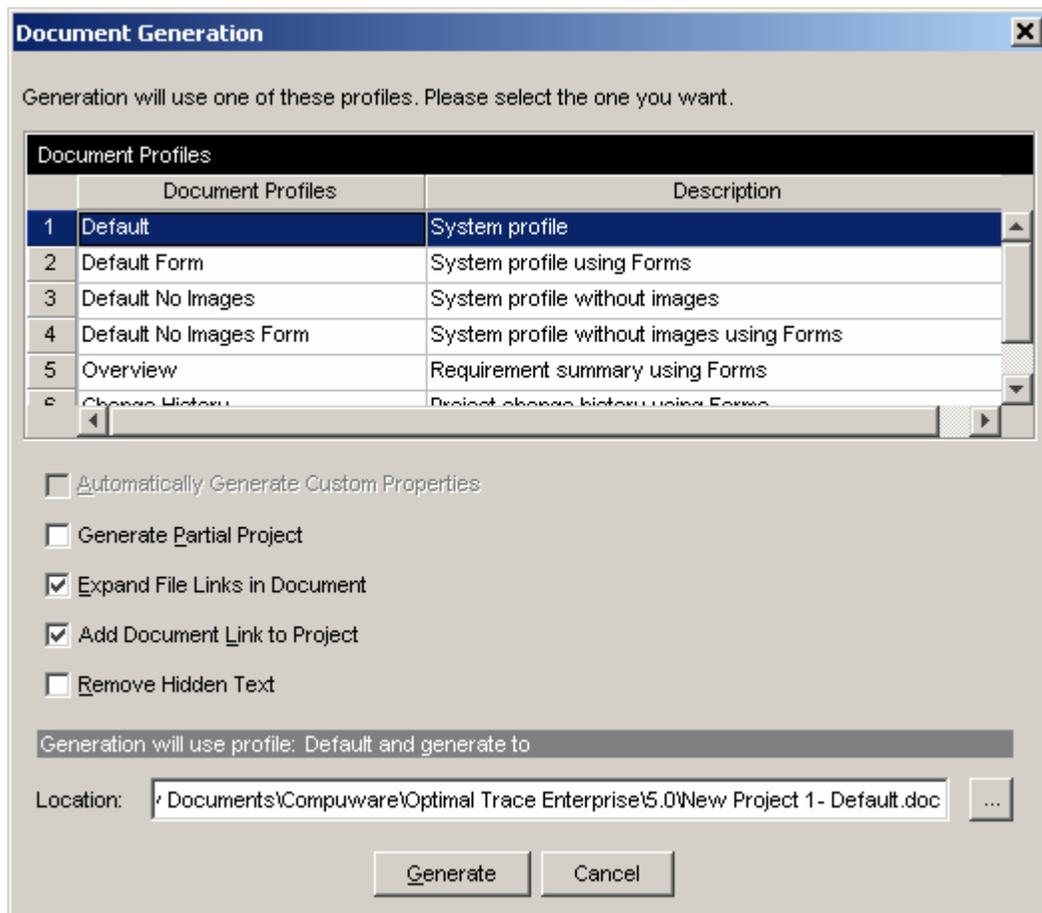

Figure 54 - Document Generation screen
- Click on the  button, and the Document Generation screen will appear, see Figure 54 below. See Table 17 below, for details.